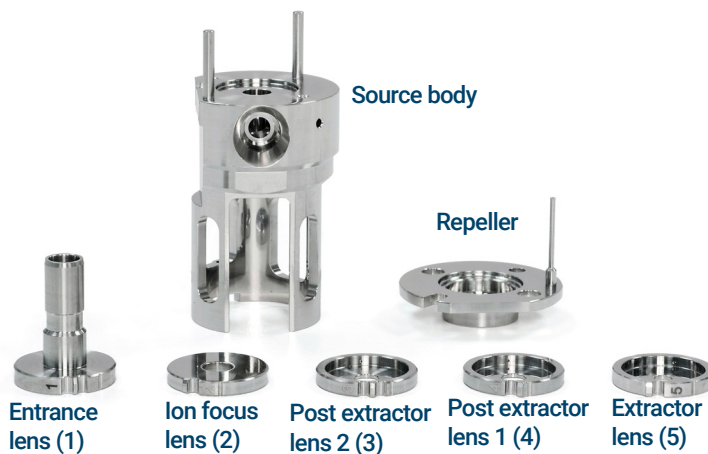

Figure 54. EI HES parts to be cleaned
- 2 Collect the following parts to be cleaned if you are cleaning an EI HES: (See **Figure 54** on page 172.)
- Extractor lens (5)
- Post extractor lens 1 (4)
- Post extractor lens 2 (3)
- Ion focus lens (2)
- Extended entrance lens (1)